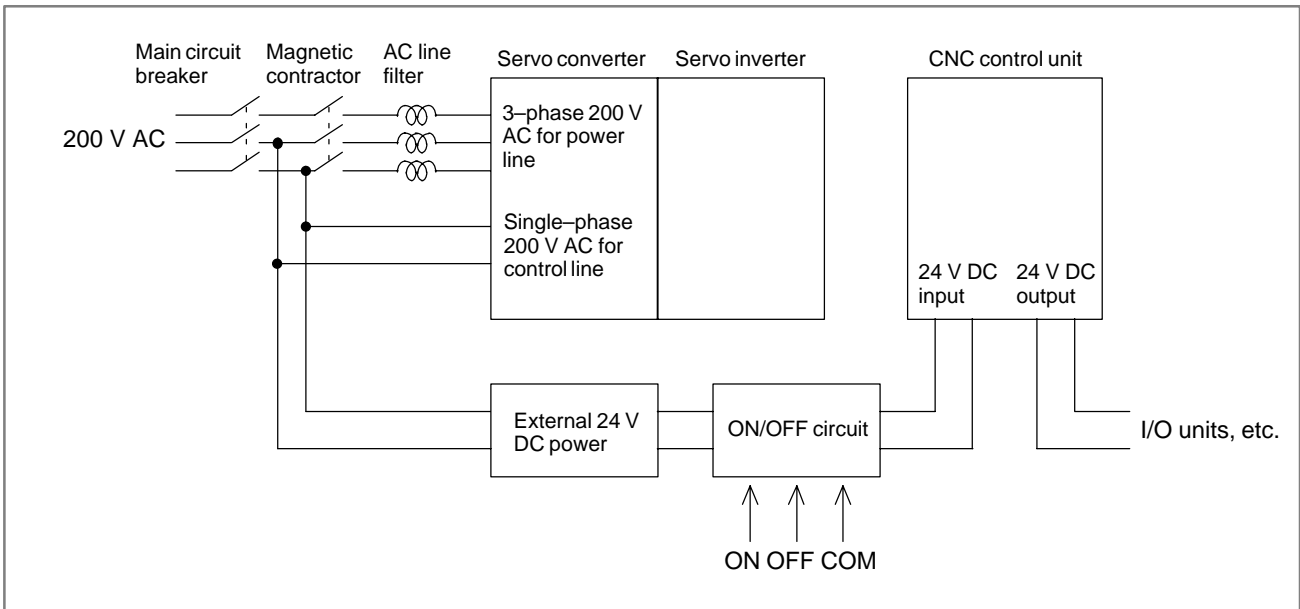

Fig. 4.2.1 (a)
Install a power switch at (1) in Fig. 4.2.1 (a).